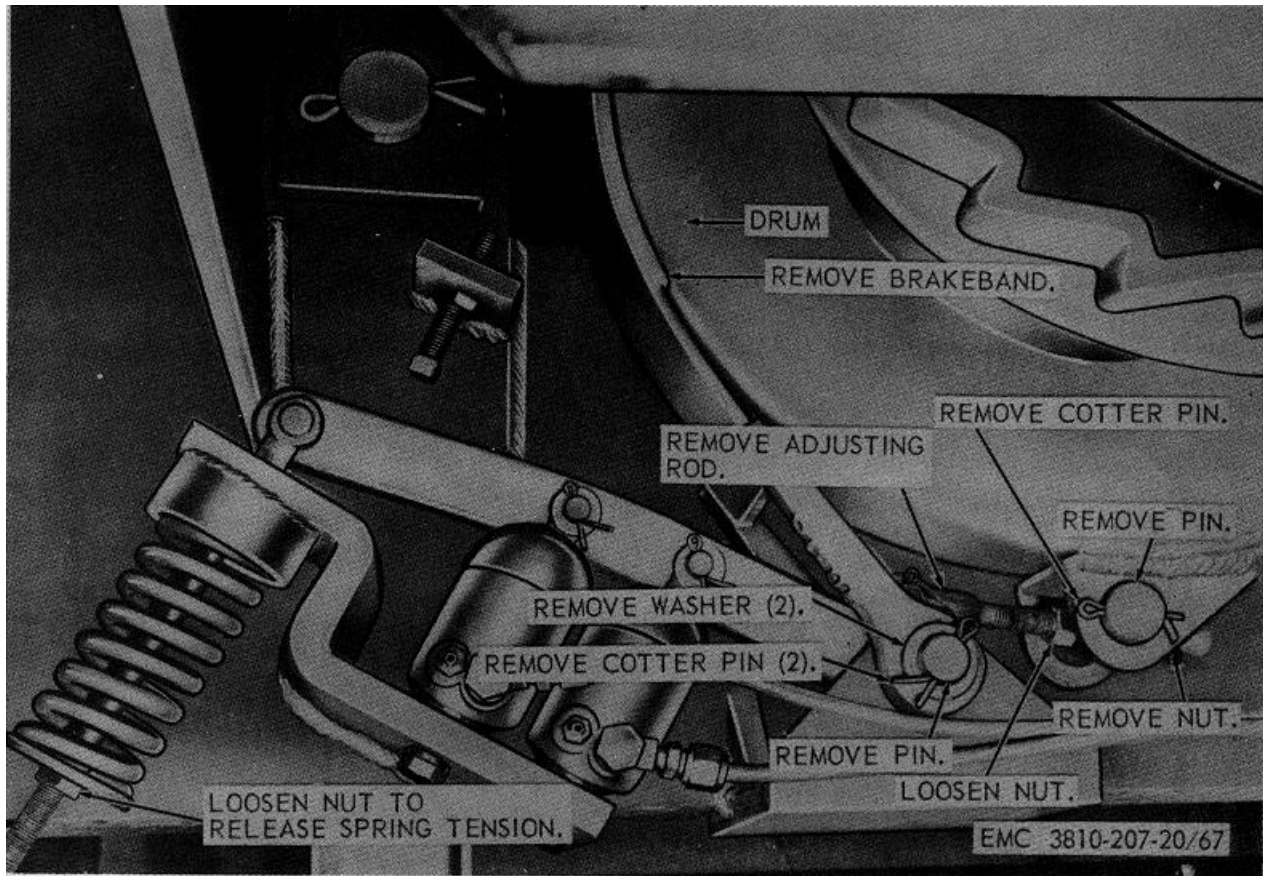

Figure 67. Boom hoist brakeband, removal end installation.
- (1) Remove the boom hoist brakeband as instructed on figure 67.
- (1) Install the boom hoist brakeband as illustrated on figure 67.
- (2) Adjust the boom hoist brakeband (TM 5-3810-207-10).
- (3) Inspect all other parts for breaks, excessive wear, and other damage. Replace all defective brakebands and parts.